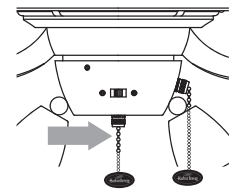

Fig. 2
2. Pull the light pull chain, labeled LIGHT, to turn the lights ON or OFF. [Fig. 2]